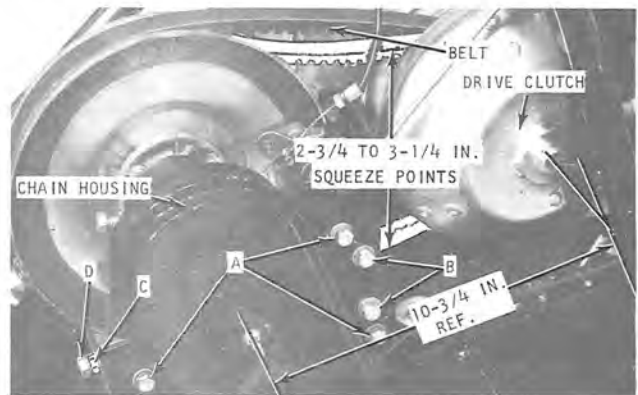
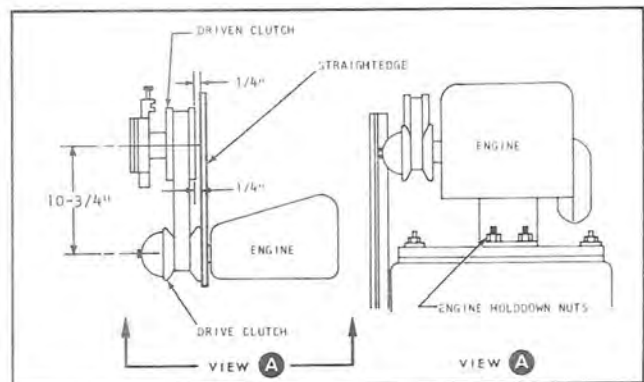

Figure 4
Figure 4A
1. Loosen three bolts marked A (figure 4) and the two nuts securing the lower chain housing to the main frame. DO NOT loosen bolts marked B.
NOTE: Proper tension for a NEW belt is obtained when the clutch centers are spaced 10-3/4 inches apart (figure 4A). Proper tension for a USED belt is obtained when the opposite sides of the belt can be squeezed to within 2-3/4 to 3-1/4 inches of each other at the drive clutch (figure 4).
2. Loosen the four bolts securing the engine to the engine mount (figure 4A).
1. Remove the hood assembly. Lay Ski-Daddler on right-hand side and remove the chain housing cover (figure 4).
Be certain brake assembly clears the clutch flange after adjusting chain. If necessary, loosen the two bolts B (figure 4) and reposition brake assembly.
1. If brake adjustment is needed, remove cotter pin from castle nut on the brake arm and tighten or loosen castle nut until the brake pads just clear the clutch sheave (figure 4). Reinstall cotter pin.